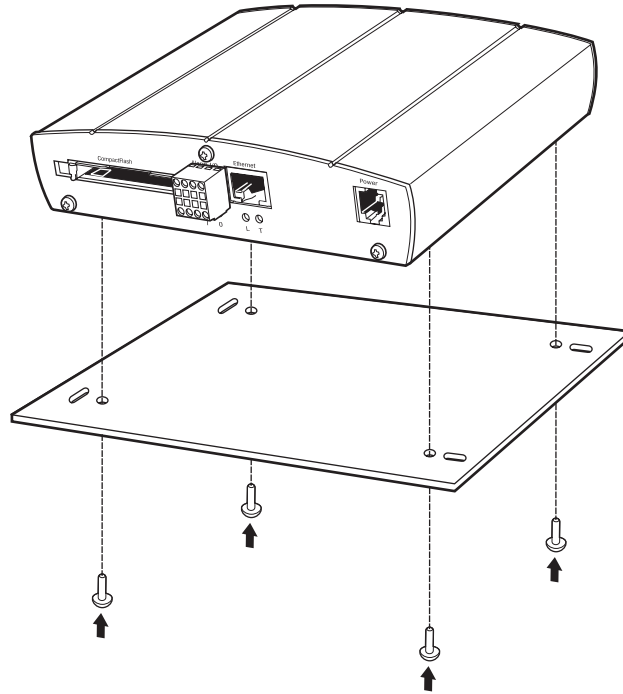

Figure 17. Securing NET350 to Wall Mount Bracket
2. Refer to Figure 17. Align the grooves on the underside of the NET350 with the four smaller holes in the mount. Install four screws (supplied) through the holes in the bottom of the wall mount. The screws fit in the grooves. Tighten carefully to secure the NET350 to the wall mount. **DO NOT OVER-TIGHTEN;** the screws can damage the aluminum grooves.